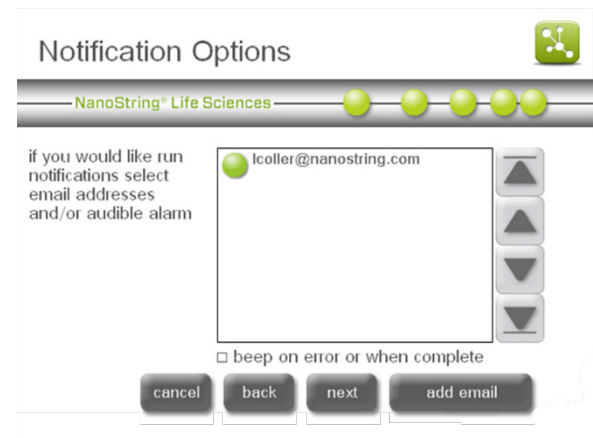

Figure 139: The 'Notification Options' screen.
- The 'Notification Options' screen will appear (Figure 139). Select an email address to receive an email alert when the protocol is complete and set the system to produce an audio alert if desired. Press **next**.